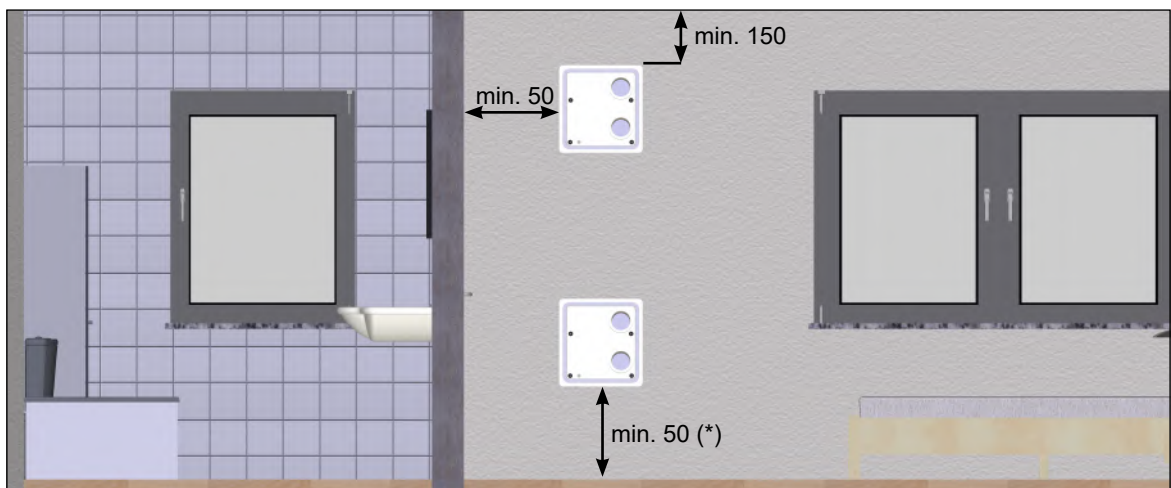
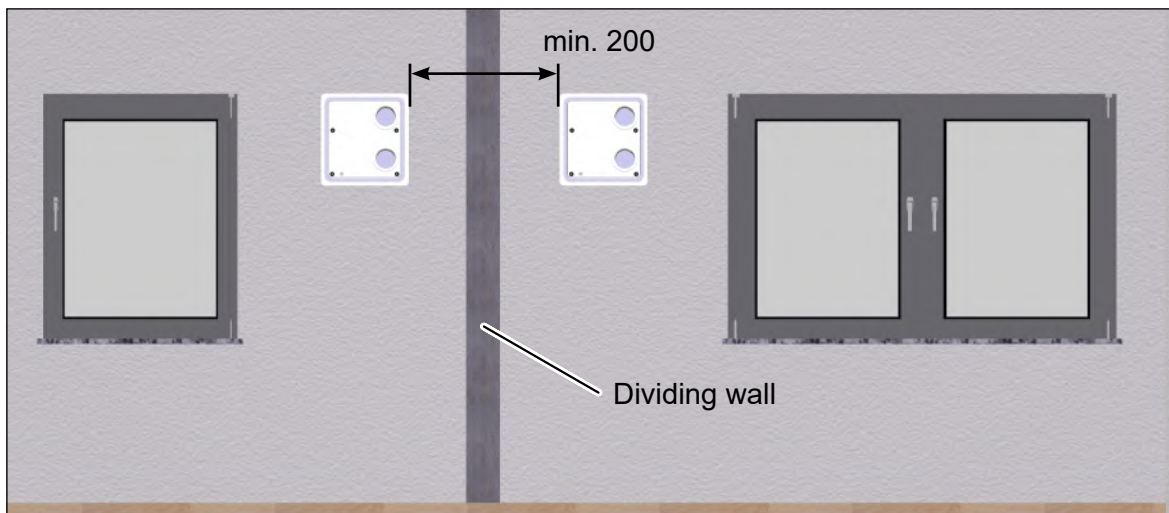

Fig. 4: Minimum distances and options for positioning the M-WRG-M/MB installation kit, dimensions in millimetres
Fig. 5: Lateral minimum distance between two wall boxes, dimensions in millimetres
- ▶ Maintain the following minimum distances (see Fig. 4 and Fig. 5):
- The distance between the side and bottom edges of the wall box and adjacent surfaces should be at least 50 mm (exception: if a condensate connection is used, see (\*) in Fig. 4 on page 10). The ventilation unit will be easier to operate if this minimum distance is maintained. It also allows the air filter to be replaced without obstruction.